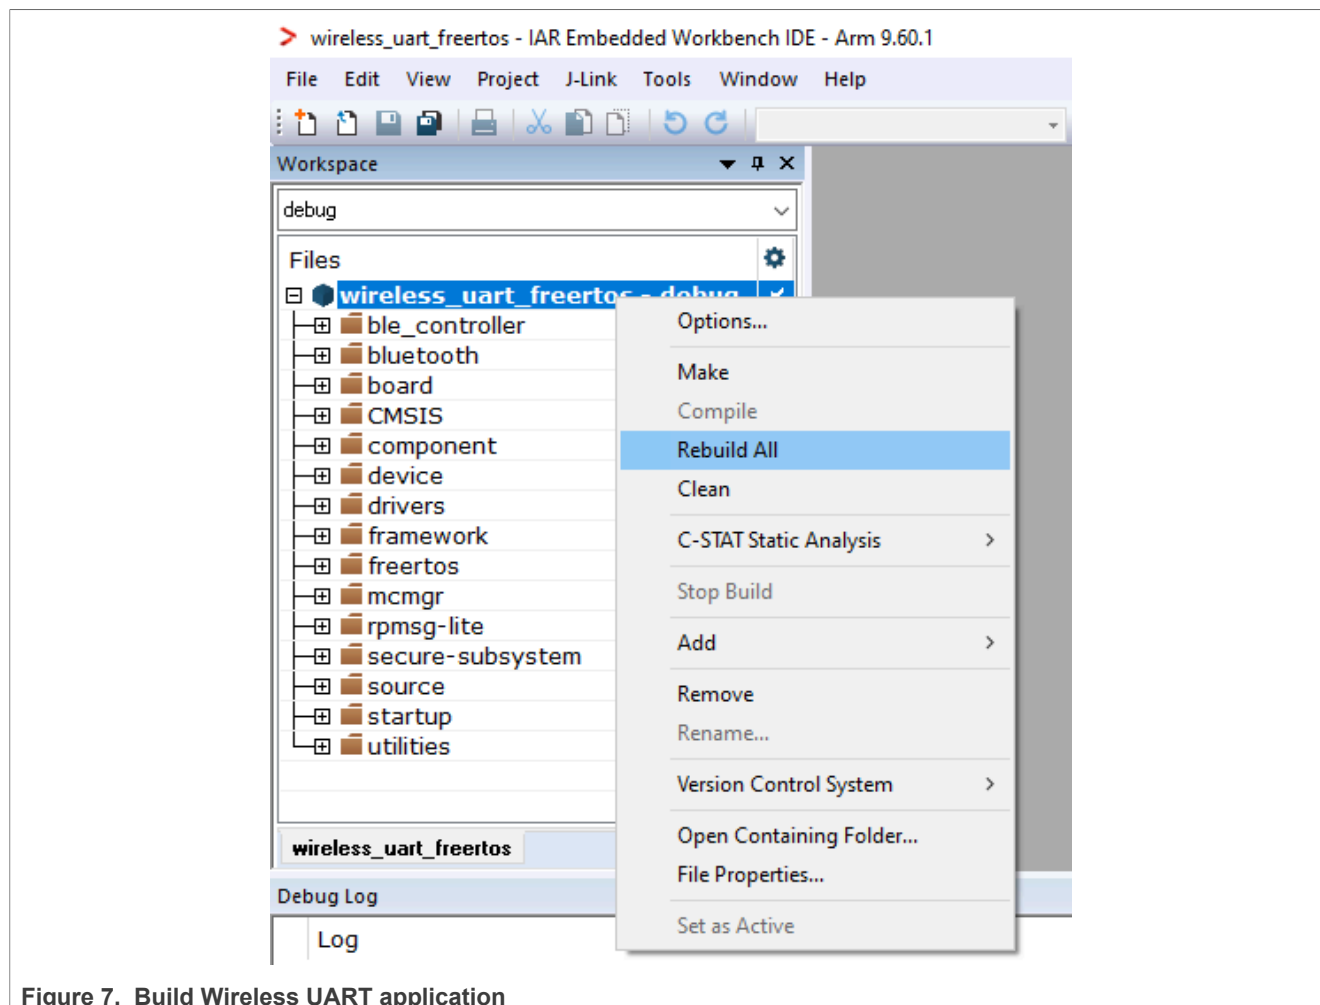

Figure 7. Build Wireless UART application
4. Build the Wireless UART project using the options shown in Figure 7.